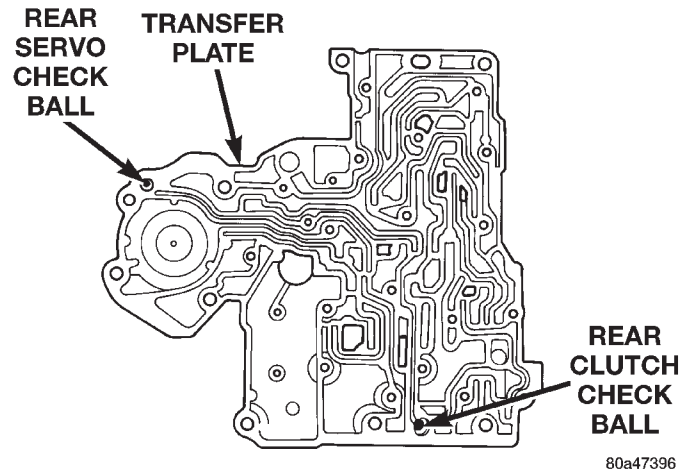

Fig. 56 Rear Servo and Rear Clutch Check Balls
(22) Install rear clutch servo and rear servo check balls in proper cavities in transfer plate (Fig. 56).